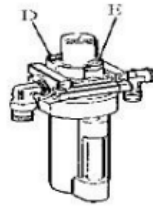

Fig 19
Damaged parts must be replaced by professional personnel using spare parts provided by the manufacturer. (Fig. 19)
Check the oil level in the Oil Fog Maker; please refill with SAE30 oil if necessary. Unscrew it with the hex key (E). According to the compressed air connection, first press the jaw opening/closing pedal or the turntable rotation pedal 5-6 times, then check if a drop of oil falls from the Oil Fog Maker. For continuous operation, press twice each time, and one drop of oil should fall; if not, adjust the screw (D) that controls the oil input with a flat screwdriver. (Fig. 19)